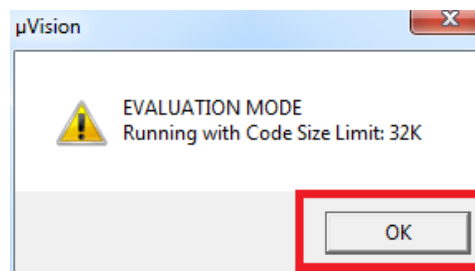

Figure 1.7: Keil IDE: Evaluation Mode Code Size Warning Dialog Box
4. Click OK when you are prompt with the code size limit of 32K in evaluation mode warning dialogue box (see Figure 1.7).